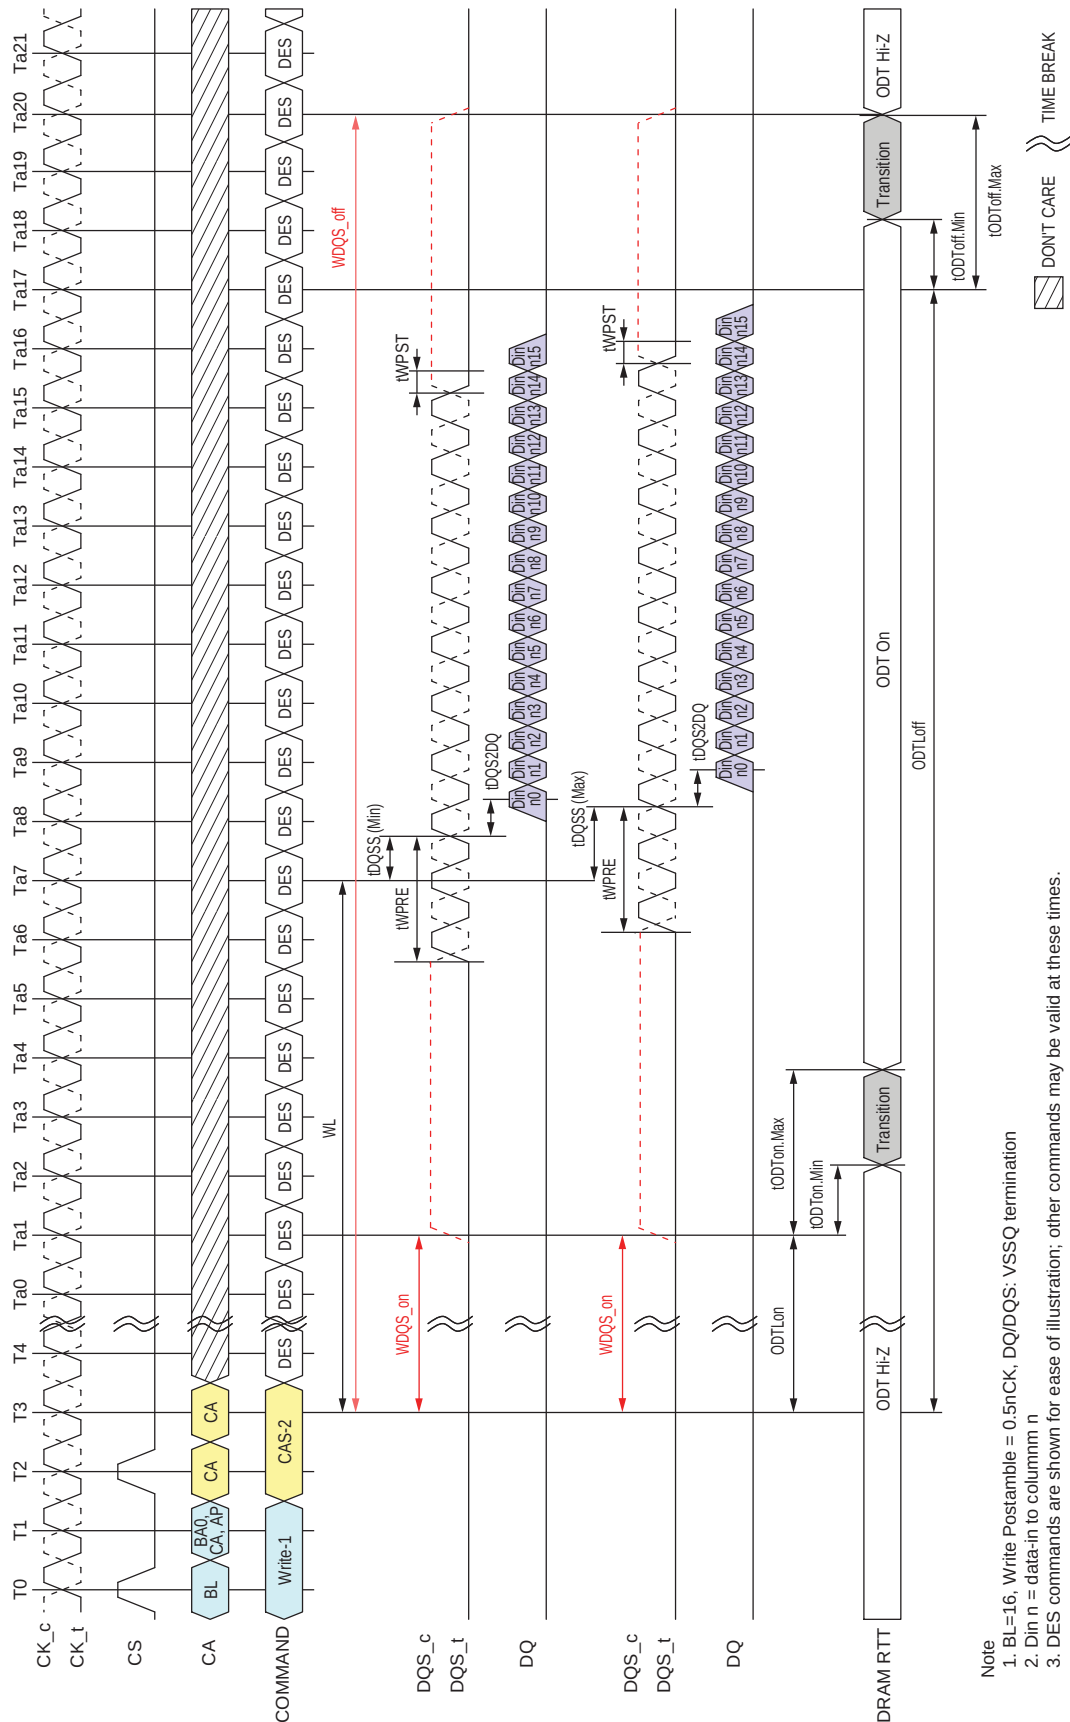

Figure 4.116 — Asynchronous ODTon/ODToff Timing
1. ODTLon is referenced from CAS-2 command. See Figure 4.116.